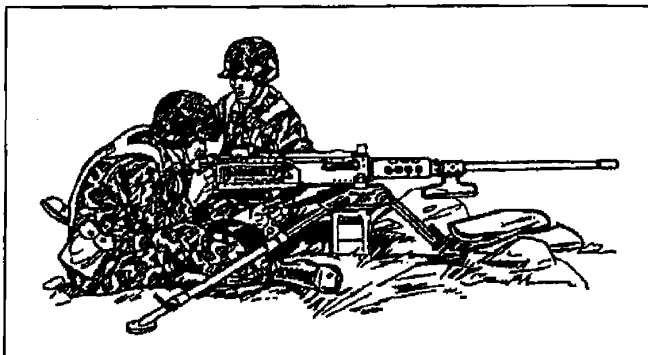

Figure 071-313-3454-2. Sitting position (tripod mount)
c. Standing position (figure 071-313-3454-3).